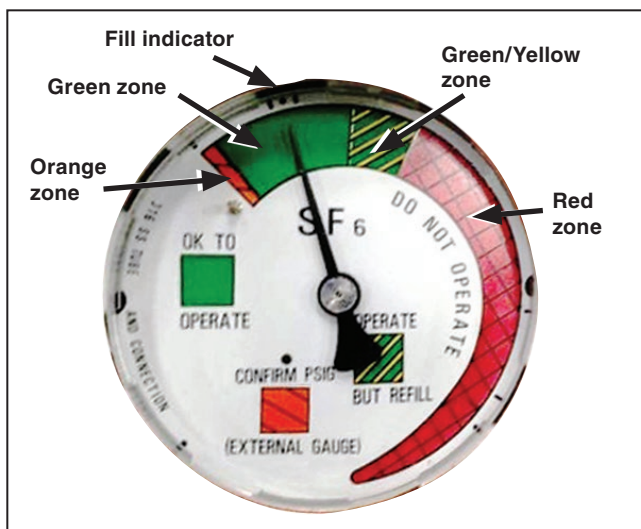

Figure 8. Internal gas-pressure gauge for most Vista switchgear models.
STEP 5. Observe the pressure gauge on the Vista switchgear unit. When in the fully **Open** position, the regulator valve is calibrated to not allow fill pressure to exceed 10 psi. Continue to fill the tank with gas until the needle is at its fill point, in between the tick marks in the Green zone (or for R1 Vista switchgear models rated 15 kV, 12.5 kA sym., at the fill indicator) and then close the cylinder valve. **DO NOT OVERFILL.** See Figures 8 and 9.